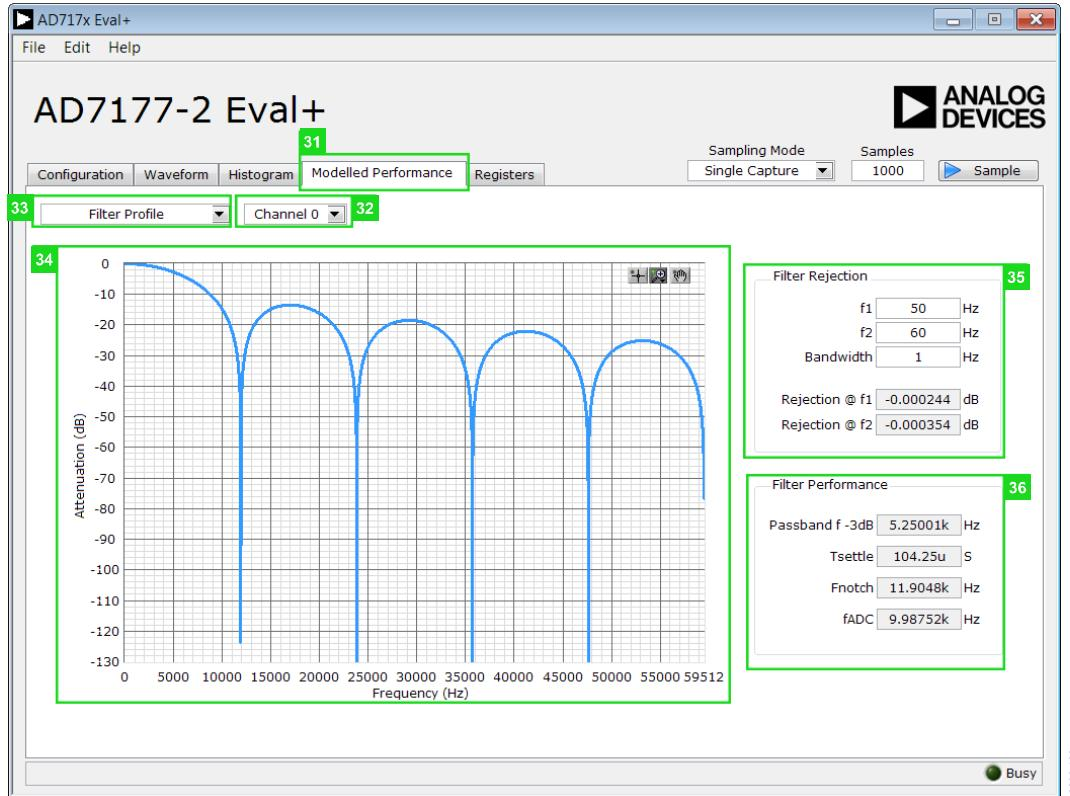

Figure 20. Filter Profiles of the AD717x Eval+ Software
Diagram/Power. These options can be selected from the dropdown list (33). Figure 20 shows this tab when **Filter Profile** is selected.